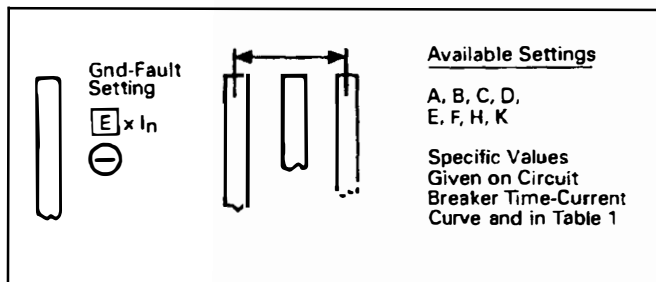

Fig. 8.6 Ground Fault Current Settings
The eight (8) Ground Fault “Pick-Up” Current Settings are labeled with the code letters “A” through “K” (except there are no “G” or “I” settings), as illustrated in Fig. 8.6. In general, the specific current settings range from 0.25 to 1.0 times ( $I_n$ ), the rating plug value, but cannot exceed 1200 A. The specific Ground Current Settings for each letter are listed in Table 4 and on the (G) Time-Current Curve applicable for the circuit breaker (see Section 6.)